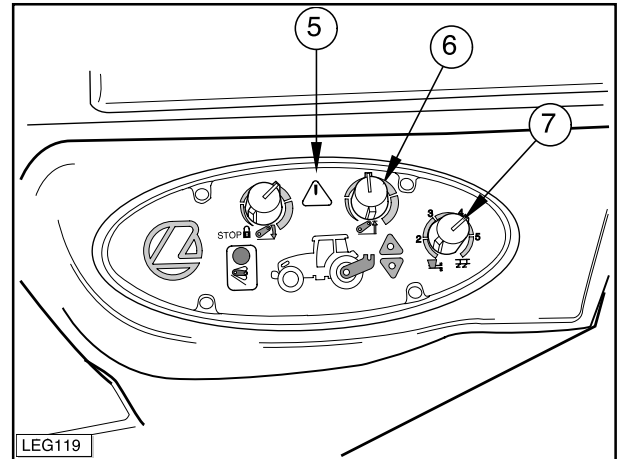
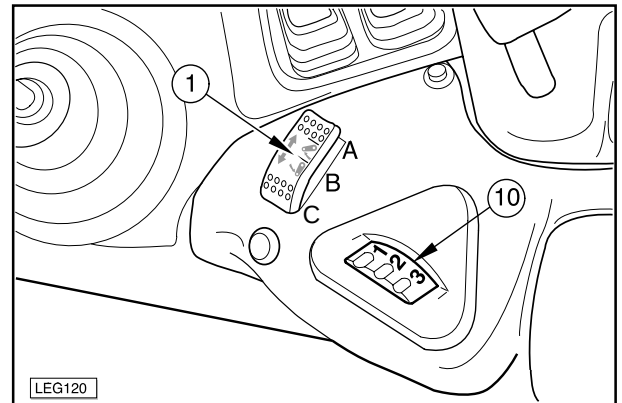

Fig. 4-72
Fig. 4-73
Enabling the power lift (Fig. 4-72 and 4-73)
- If you need to stop lift movement immediately, simply turn the switch (1) to Pos. B.
- Before you enable the power lift controls, check that the settings of controls (10 - Fig. 4-73 and 7 - Fig. 4-72) do not cause any dangerous movement of the implement.
When the engine is started, the check-control indicator (5 - Fig. 4-72) lights up. Once the electronic power lift is enabled as already described, the check-control indicator should go out.